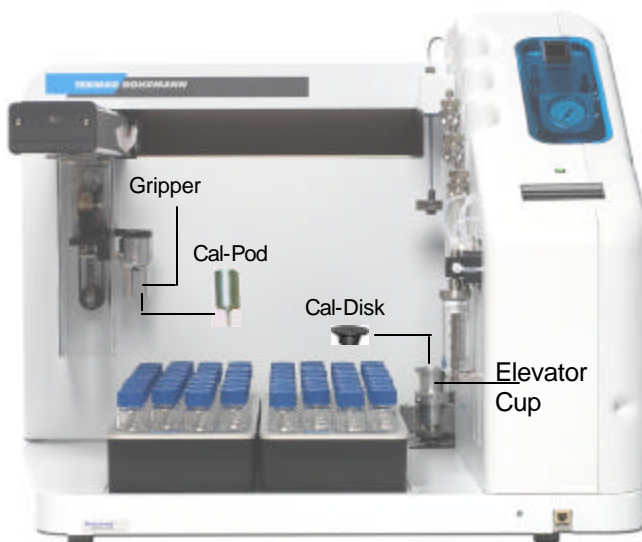

Figure 4-6: Cal-Pod, Cal-Disk, and Gripper
13. Place the Cal-disk into the elevator cup and press [Step] (Figure 4-6).